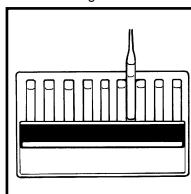

Figure 4
- b. **High Range Comparator (fig. 4):** Place the ampoule between the color standards until the best color match is found.